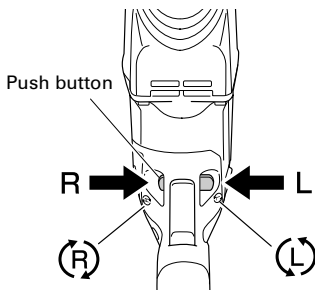

Fig. 5
7. Confirm the direction of bit rotation (Fig. 5)